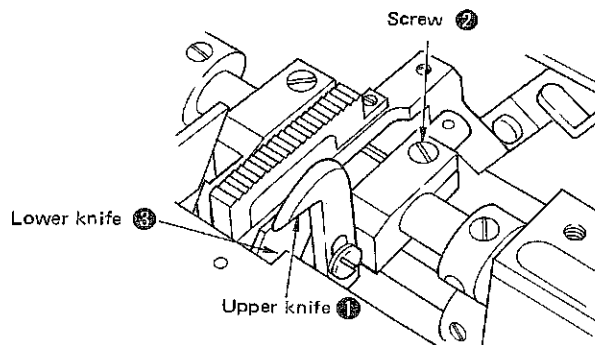

Fig. IV-8-1
The cutting width of the material can be adjusted within the range of 12 mm to 50 mm by changing the position of upper knife ① and lower knife ③. (See Fig. IV-8-1)
Loosen screw ②, and adjust the upper knife cutting width by moving the upper knife to the left or right. Then tighten the screw so that the upper knife is fixed firmly in place. (See Fig. IV-8-1)